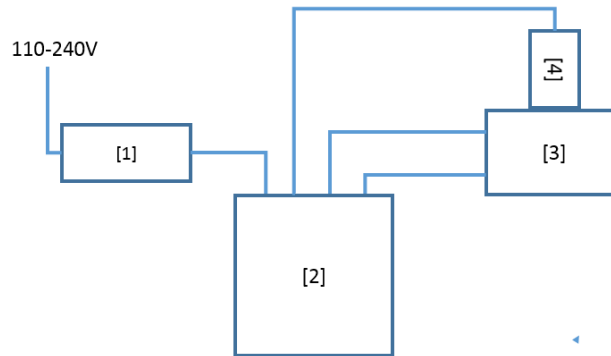

Figure 4: UHP-T LED Illuminator cable connection: (1) Power Adaptor, (2) UHPTLCC-USB-STBL controller, (3) UHP-T-LED head, (4) – PD-LT Photosensor
3. Connect the LED Control Cable and the LED Current Cable to the UHPTLCC-USB-STBL LED current controller and to the UHP-T-LED head (See Figure 4 and 5 below).